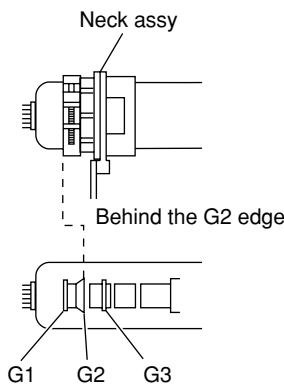

Fig. 6-1
2. Position neck assy as shown in Fig6-1.
(See Figures 6-1 through 6-3.)